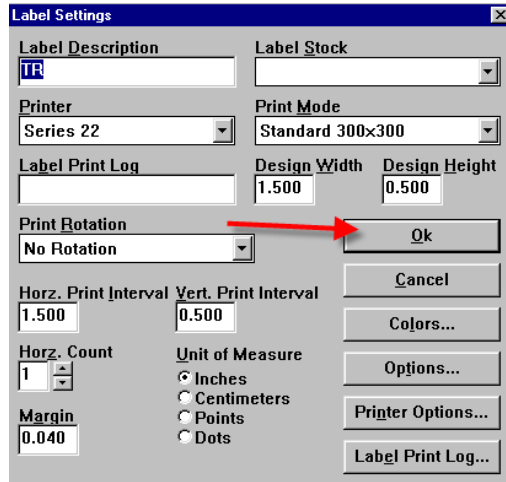

Figure 1-9
1.17. Click [OK]. (Figure 1-9) You are brought back to your label design.